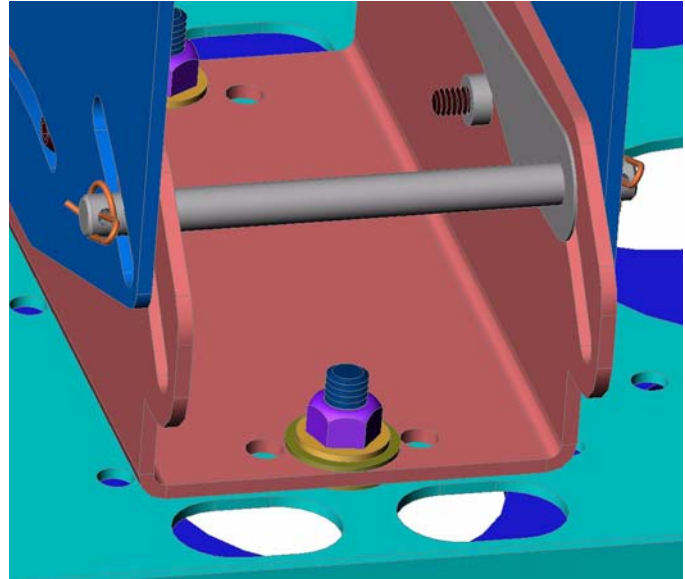

Figure 5. Adjust Roll
1. Loosen two 3/8-16 Nylock nuts inside the PDC (see Figure 5).